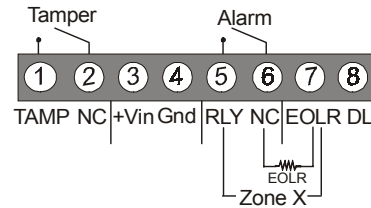

Figure 1: Terminal Block
- Wire the terminal block** as shown in Figure 1. **Note: Wiring methods shall be in accordance with the NFPA 70 standard.**